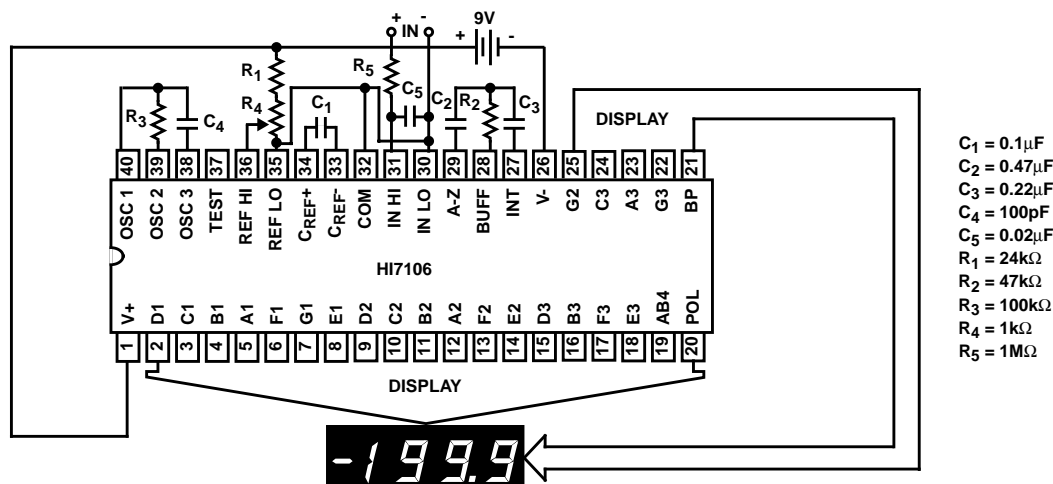

FIGURE 1. HI7106 TEST CIRCUIT AND TYPICAL APPLICATION WITH LCD DISPLAY COMPONENTS SELECTED FOR 200mV FULL SCALE
4. Unless otherwise noted, specifications apply to both the HI7106 and ICL7107 at $T_A = 25^{\circ}C$, $f_{CLOCK} = 48kHz$. HI7106 is tested in the circuit of Figure 1.